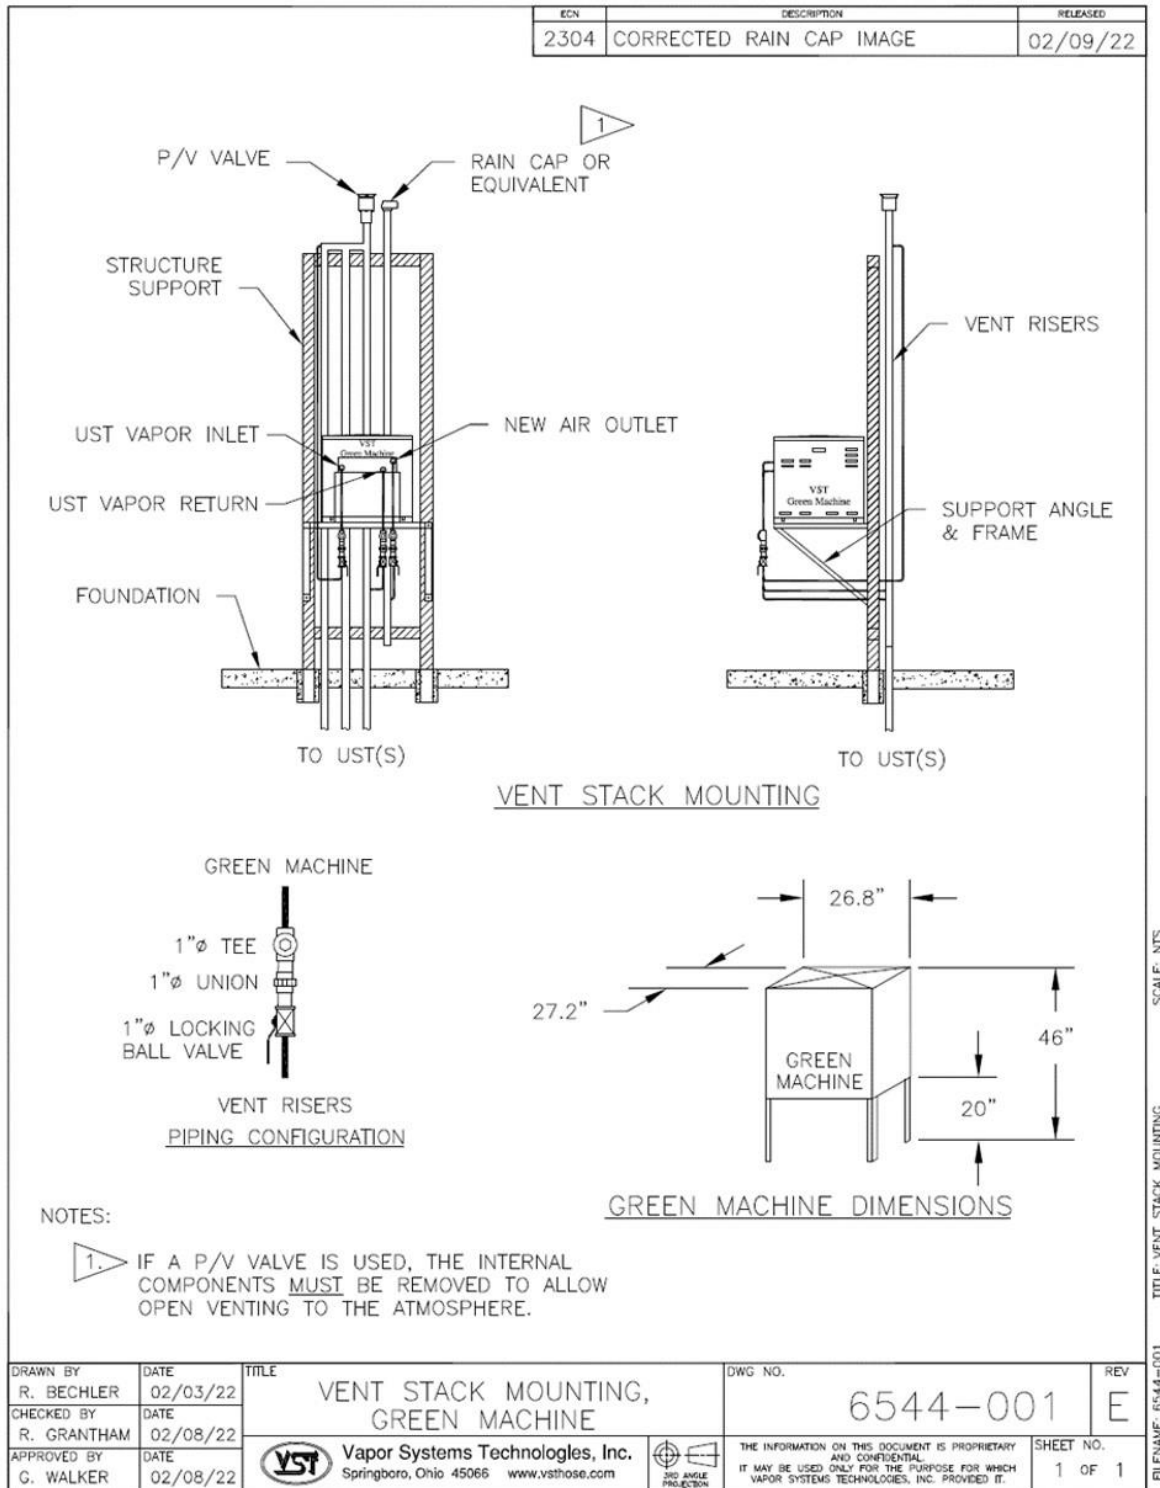

Figure 1-3: Vent Stack Installation
- **See Figure 1-3** for illustration.